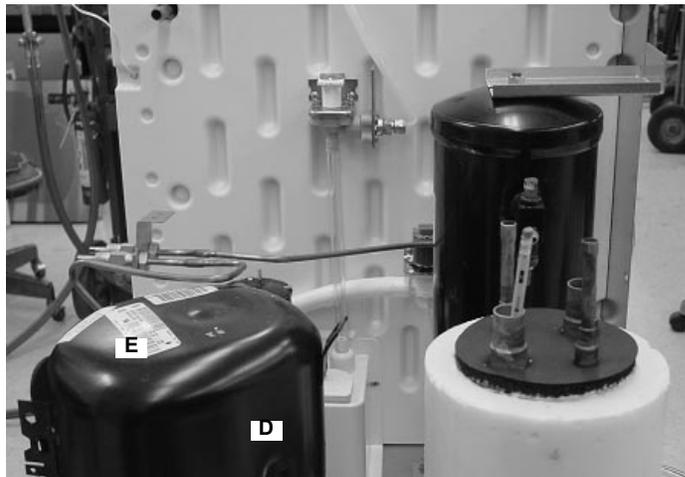

Figure 28.
25. Place the foamed accumulator assembly (D) orienting the suction line inlet, (E) as shown (Figure 28).